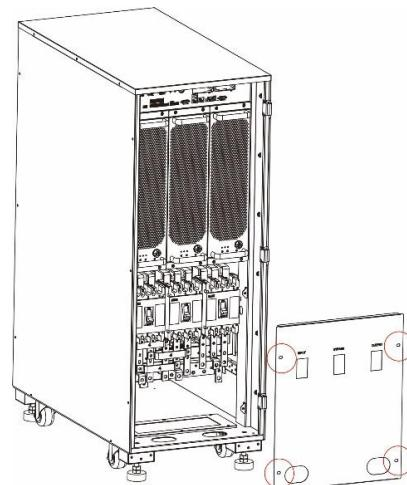

Fig. 3-8 Remove the cover of distribution unit (80/100/120/160/200kVA)
Step 6: secure the components to the case with 8 × M6 and 4 × M12 screws, as shown in Fig. 3-8.